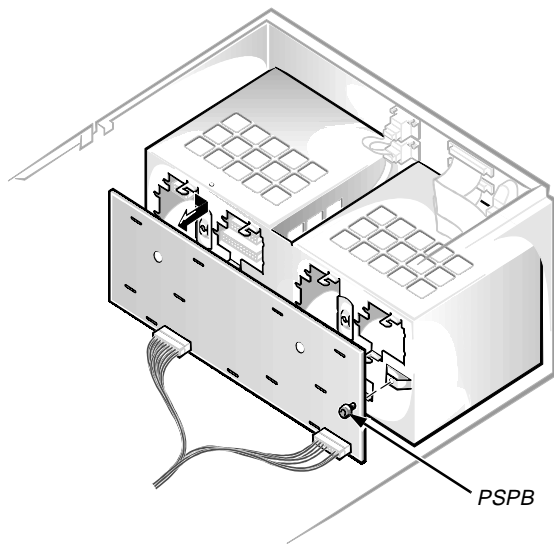

Figure B-10. Removing the Power-Supply Paralleling Board
6. Remove the PSPB (see Figure B-10).